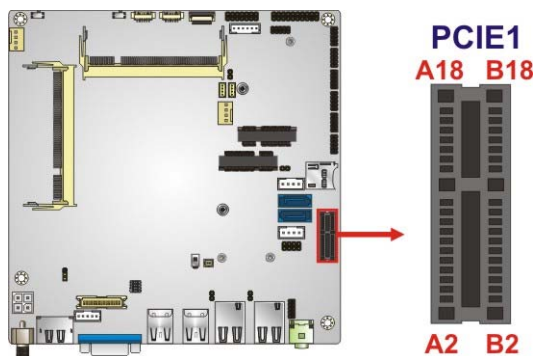

Figure 3-17: PCIe x1 Slot Location
- CN Location:** See **Figure 3-17**